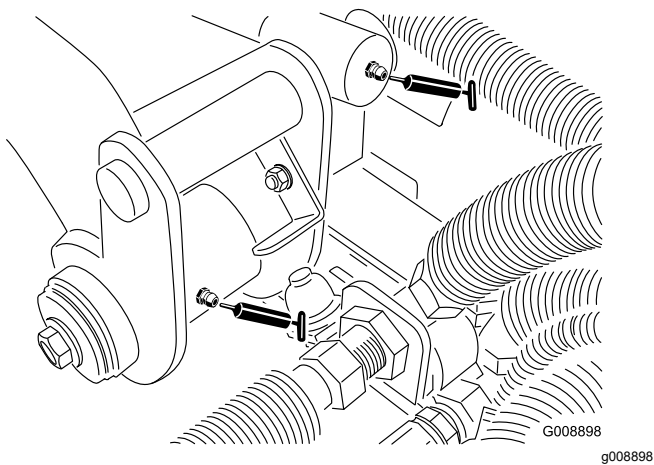

Figure 37
- 2 rear lift-arm pivots and lift cylinder (Figure 37)